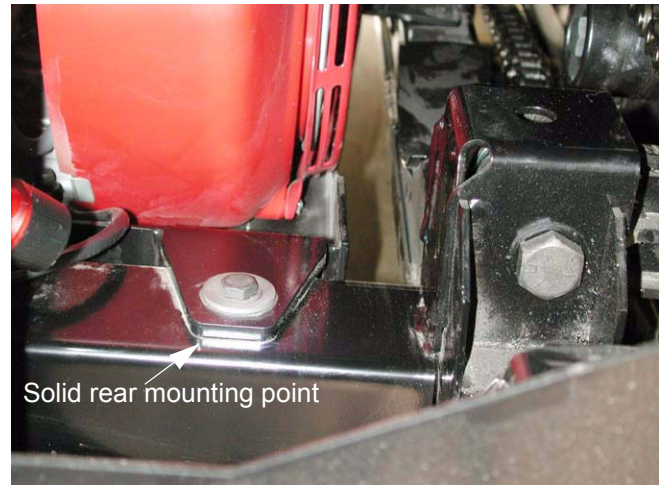

Figure 4.6
- 4.6. The two mounting systems are not interchangeable. The rear mounting points on the frame are not drilled and cut to accept the rubber isolator mounts. The front mounting points have changed substantially. Inserting rubber isolator mounts between the frame and the the engine and transmission support bracket on a Big Country 6 X 4 that was not meant to have them will also create clearance issues between the bed and the intake system. See Figure 4.6.